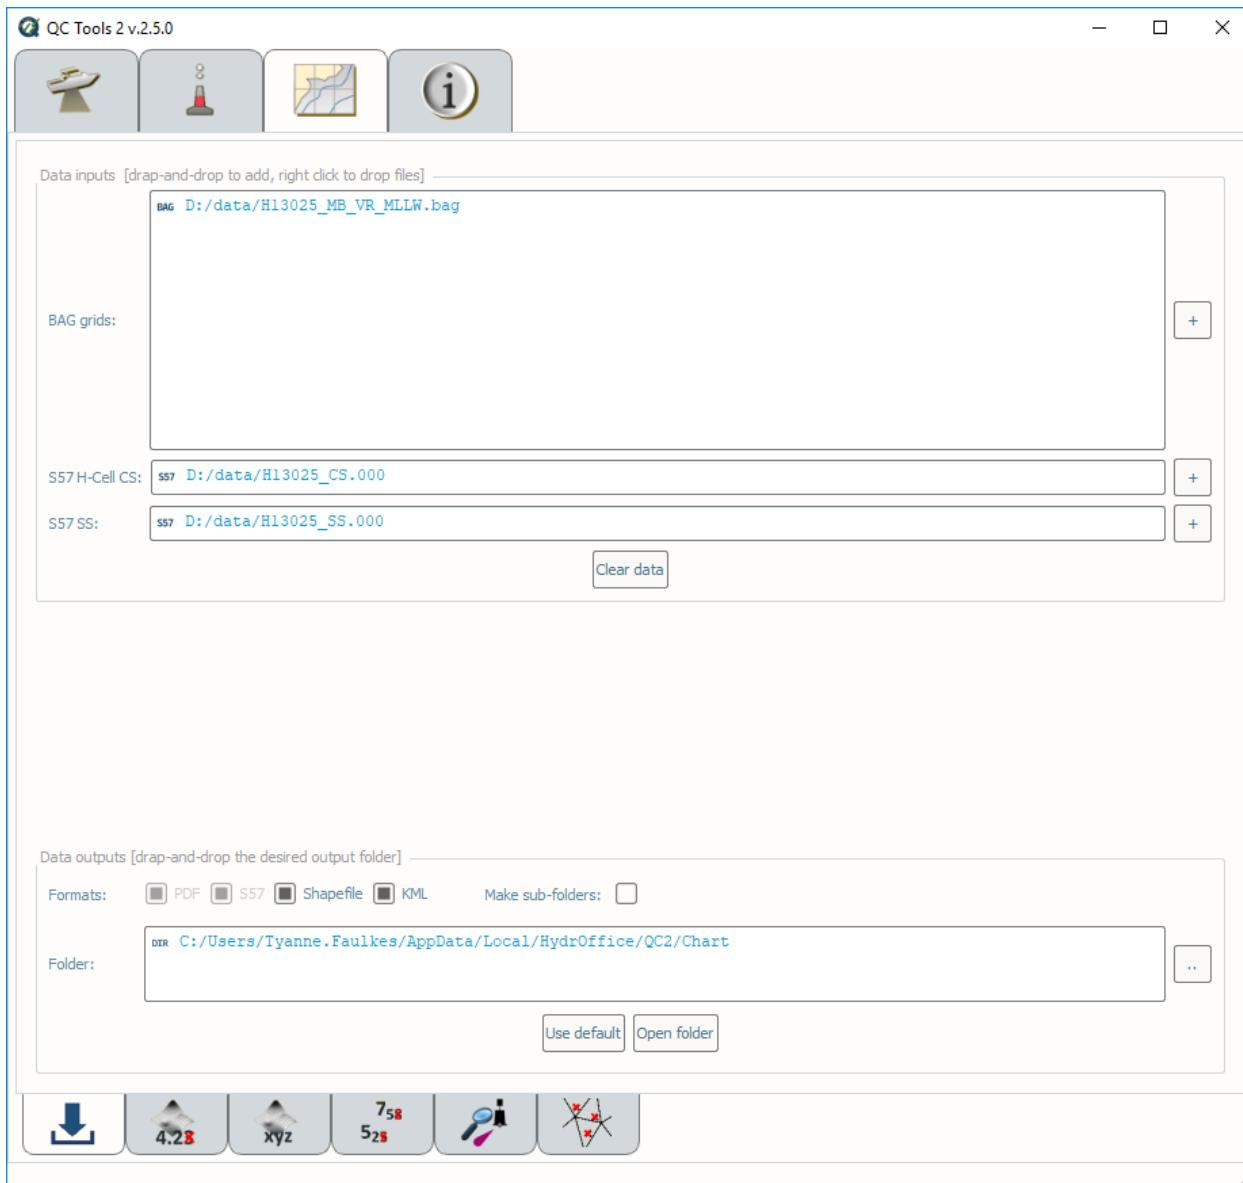

Fig. 2.54: Chart review tab.
- With the addition of a grid, feature file, and survey sounding selections, the **Grid truncate**, **Grid xyz**, **S57 truncate**, **Triangle Rule**, and/or **Scan Features** tabs on the bottom of the interface will become available (Fig. 2.54).